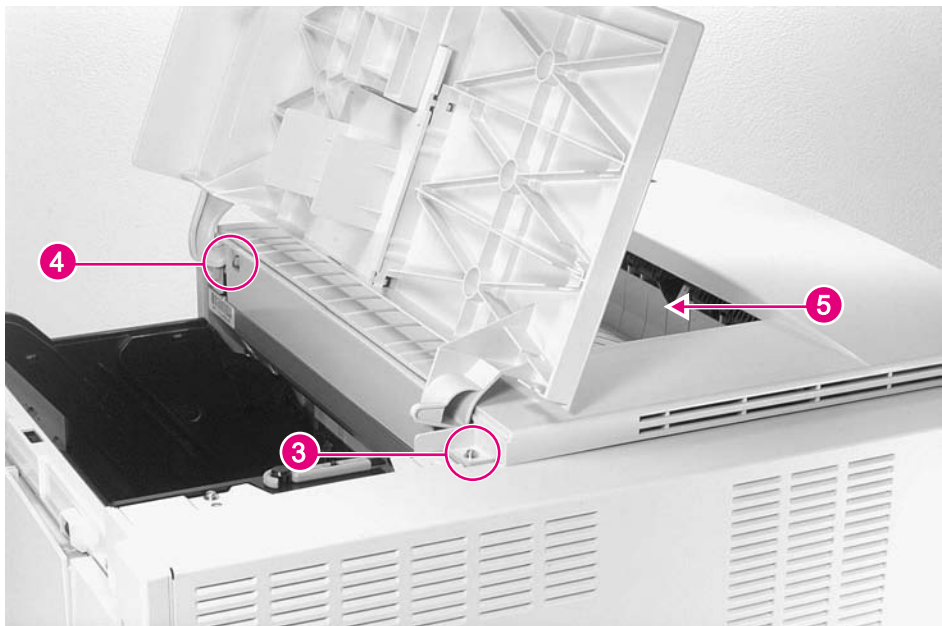

Figure 6-11 Top Cover (2 of 2)
- 3 Open the top cover door, and remove 1 screw (figure 6-11, callout 3).
- 4 Remove the clip to easily access the bin cover (figure 6-11, callout 4).
Be careful not to damage the Face-down Bin Full sensor flag (figure 6-11, callout 5) when removing the top cover.
Be careful not to damage the Face-down Bin Full sensor flag (figure 6-11, callout 4) when replacing the top cover.
- 2 Slide the Face-down Bin under the Face-down Bin Full sensor flag, and make sure that the cam (figure 6-11, callout 4) at the rear of the top cover door is properly positioned while lowering the top cover into place.